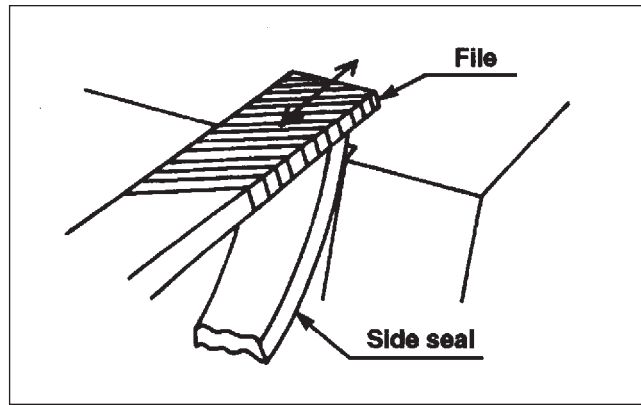

Figure 10
2. Use a flat file as shown in Figure 10; file the ends of the side seal so it will fit the corner seal. This angle should be identical to the original angle on the side seal.